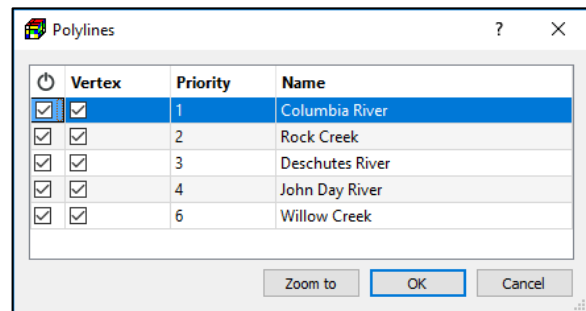

Figure 19. The Polylines dialog box
- **Manage Polylines:** Select this item to manage properties of existing polylines using the Polylines dialog box (Figure 19). This dialog box contains a table where each row represents a polyline, with the following columns: